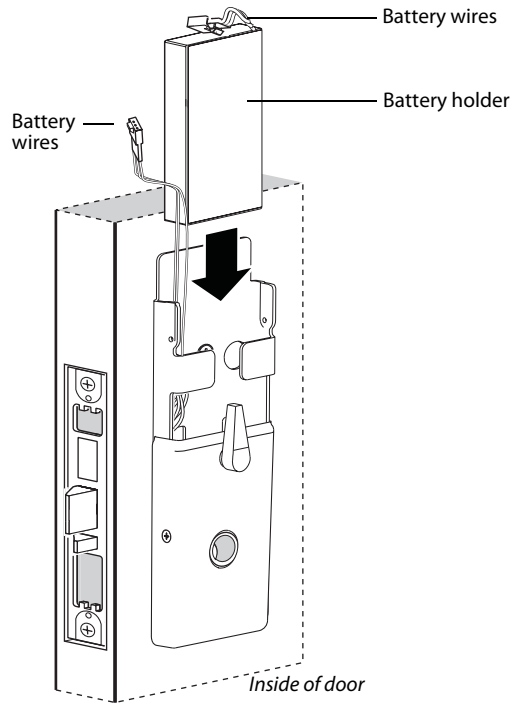

Figure 16 Installing the battery holder
- 1 Position the battery wires against the fire plate side wall, as shown in Figure 16.